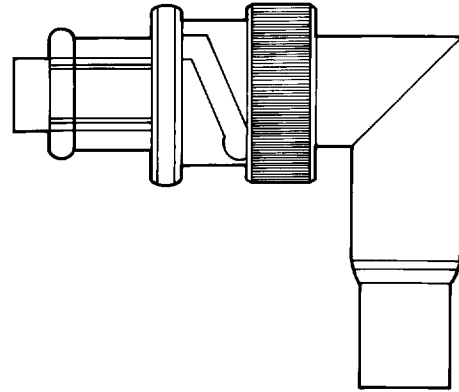

Figure 24. Typical SHV Series Connector
54. **Series SHV Connectors.** These connectors are high voltage, bayonet coupled connectors (Figure 24).